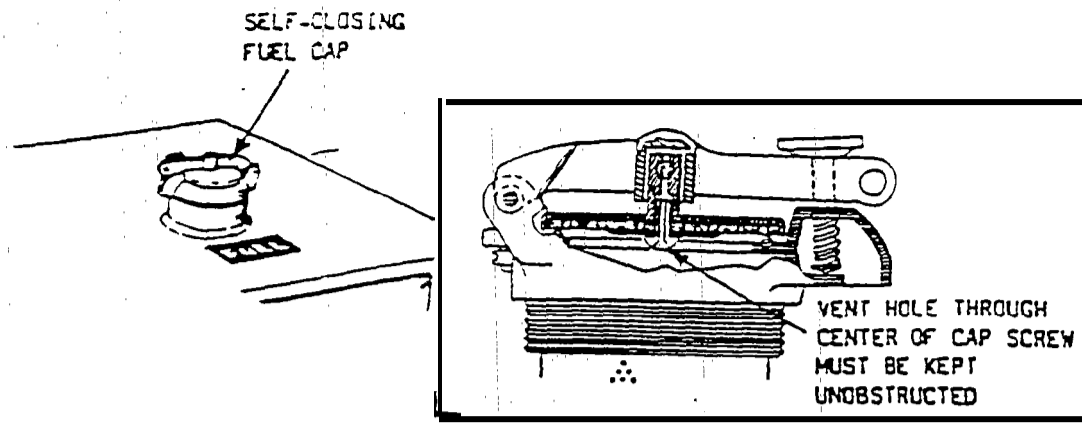

FIGURE 1
- (WEEKLY) 3.     ( )    The fuel cap is vented and self closing, and attached to the tank in a manner which will prevent 'loss during refueling. (Vent hole through center of cap must be operable) [Figure 1.]\*